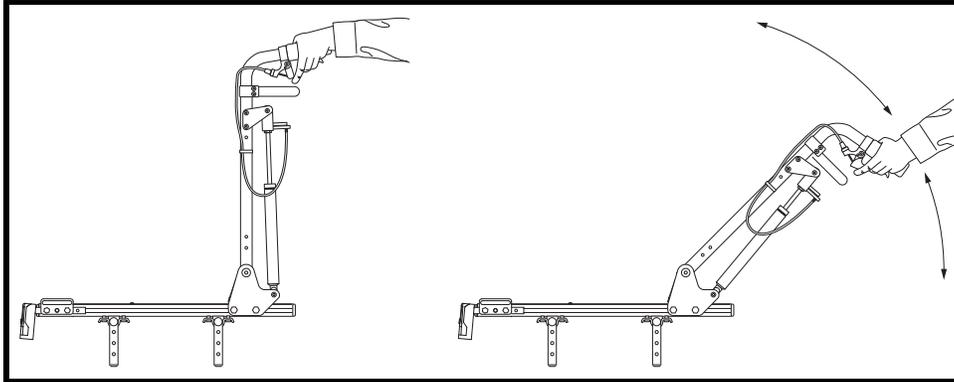

Figure 36. Manual Recline Angle Adjustment
2. Squeeze both of the recline release handles simultaneously, and position the seatback to the desired angle. See **figure 36**.